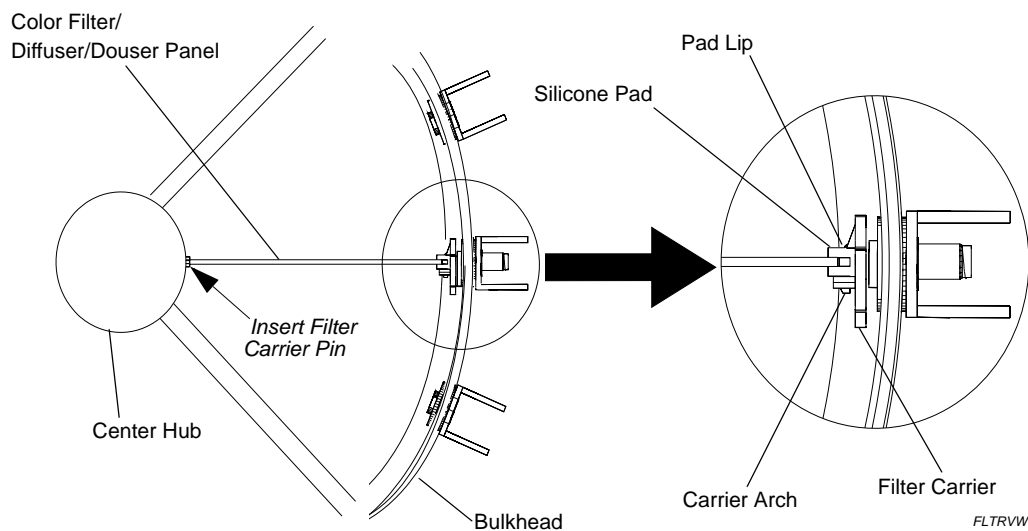

Figure 2-20: Color Filter and Diffuser/Douser Panel Removal and Replacement
Step 6. Remove filter or panel: **Figure 2-20.**
Step 7. Insert filter carrier pin (of replacement filter or panel) into center hub. **Figure 2-20.**